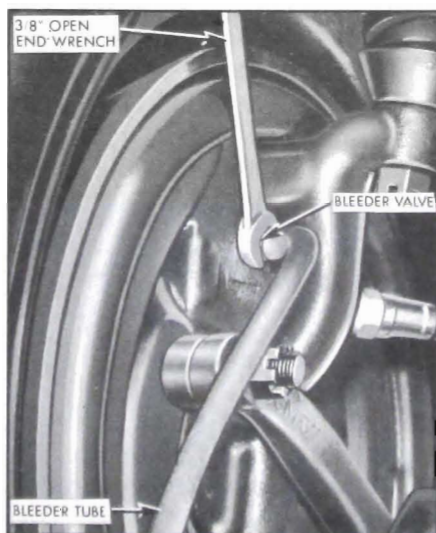

Figure 9-9—Bleeding Front Wheel Cylinder
2. Slip a brake bleeder tube over ball of wheel cylinder bleeder valve. Place lower end of bleeder tube in a clean glass jar. Unscrew bleeder valve 3/4 of a turn. See Figure 9-9.
3. Slip a brake bleeder tube over ball of wheel cylinder bleeder valve. Place lower end of bleeder tube in a clean glass jar. Unscrew bleeder valve 3/4 of a turn. See Figure 9-9.